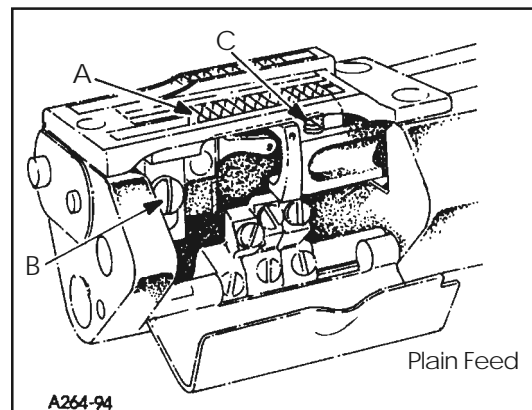

FIG. 11
Assemble the main feed dog and throat plate. Main feed dog (A, Fig. 11) at its highest position, should be set to project above the throat plate, slightly more than the depth of its teeth for Style 35800BQW and slightly more than the depth of its lower teeth for Styles 35800BRW, BRWL. The feed dog mounting screw (B) and front support screw (C) should be set to maintain this setting.